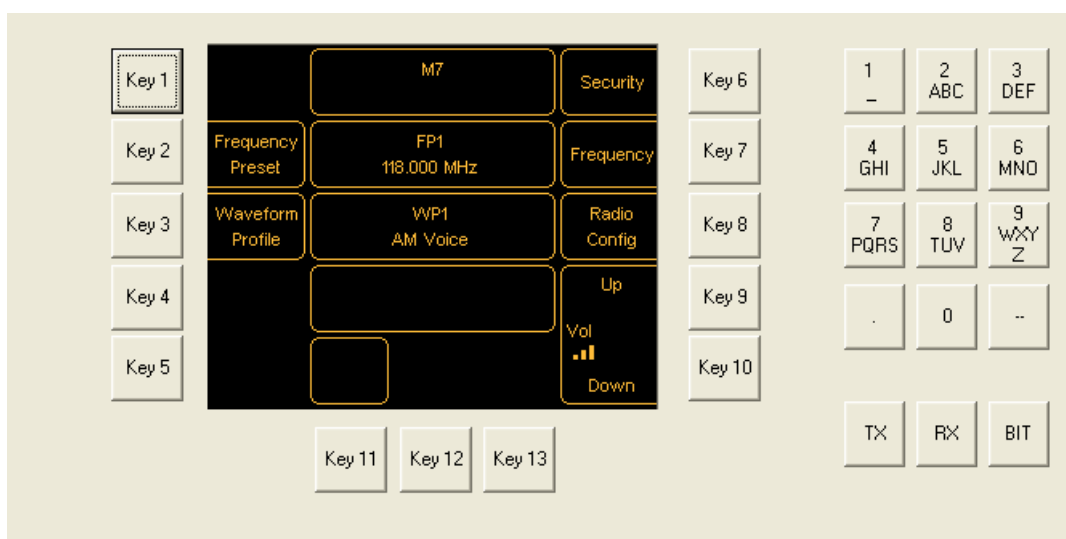

Fig 3-29 Home Screen
- (1) From the Home screen (Fig 3-29) press *Key 8 – Radio Config*.